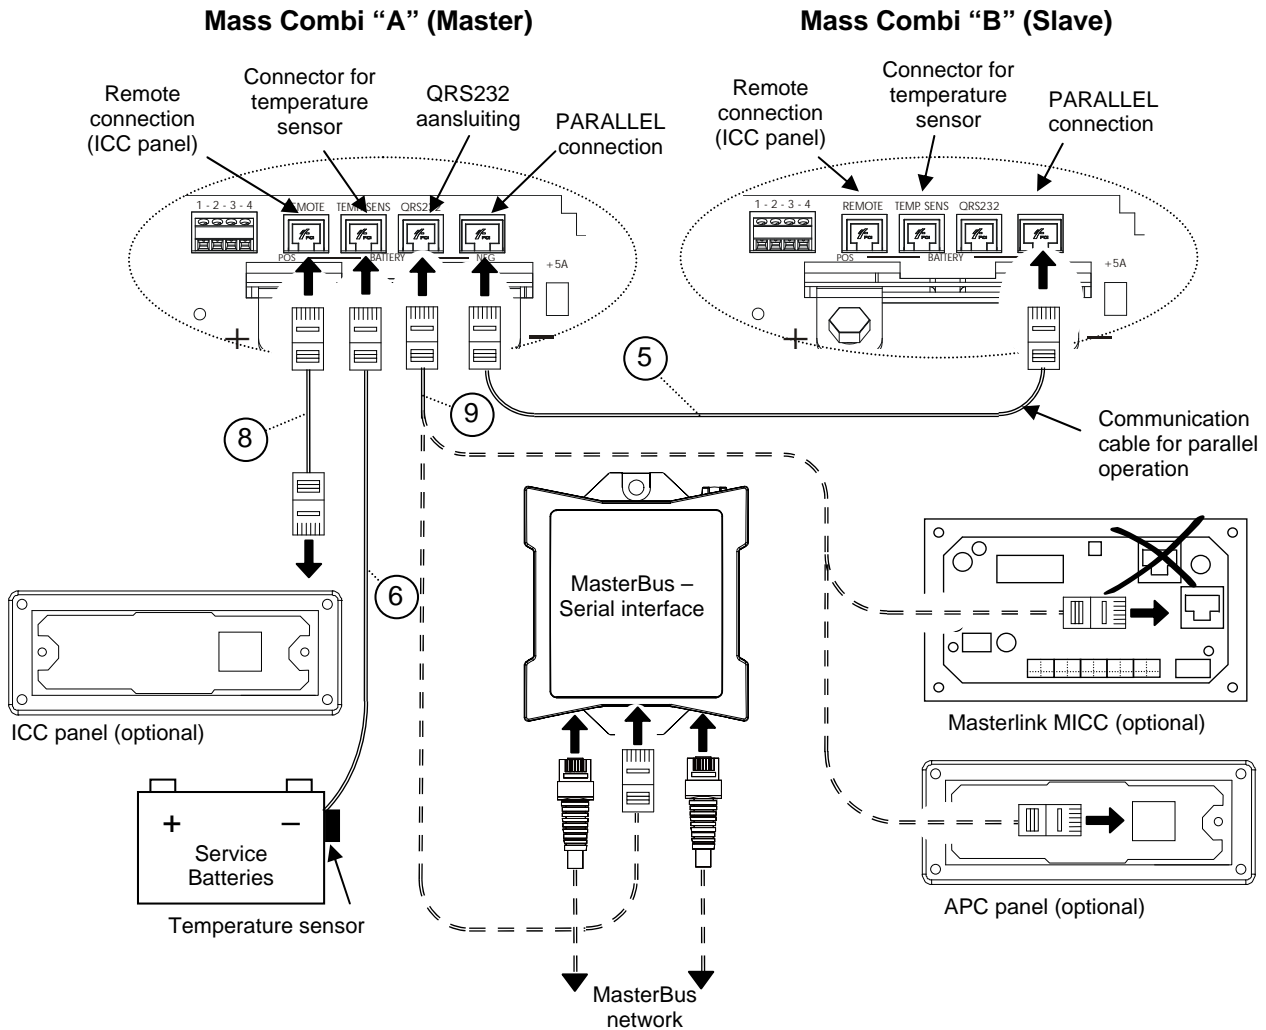

Figure 29:
- See reference ②. Connect the "AC output POWER" of Combi "A" to the power distribution group.
- See reference ③. Connect the "AC output SHORT BREAK" of both Mass Combi "A" and Mass Combi "B" to the SHORT BREAK distribution. Beware that the L, N and PE / GND wiring may not be exchanged.
- See reference ④. Run the DC-cables between the DC-distribution and each Mass Combi. Connect the red cable to the plus (+) connection, the black cable to the minus (-) connection. Do not install the DC-fuses of the DC-distribution before the entire installation is completed (see chapter 7).
- See figure 29, reference ⑤. Run the modular 8-pole communication cable between Mass Combi "A" and Mass Combi "B". Connect this cable to the PARALLEL connectors.
- See reference ⑥. Attach the temperature sensor to the battery and run the cable into Mass Combi "A" and connect the RJ12 connector to the "TEMP.SENS"-connector (Data Bus Connections)
- See figure 29, reference ⑧. If you want to install the ICC remote control panel, run the communication cable between Mass Combi A and the panel. Connect the RJ12 connector to the "REMOTE"-input (Data Bus Connections) of Mass Combi A.